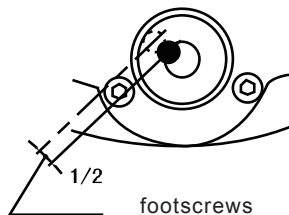

Fig.10
- (I) Turn footscrews, making the bubble halfway to centre. (Fig.10)